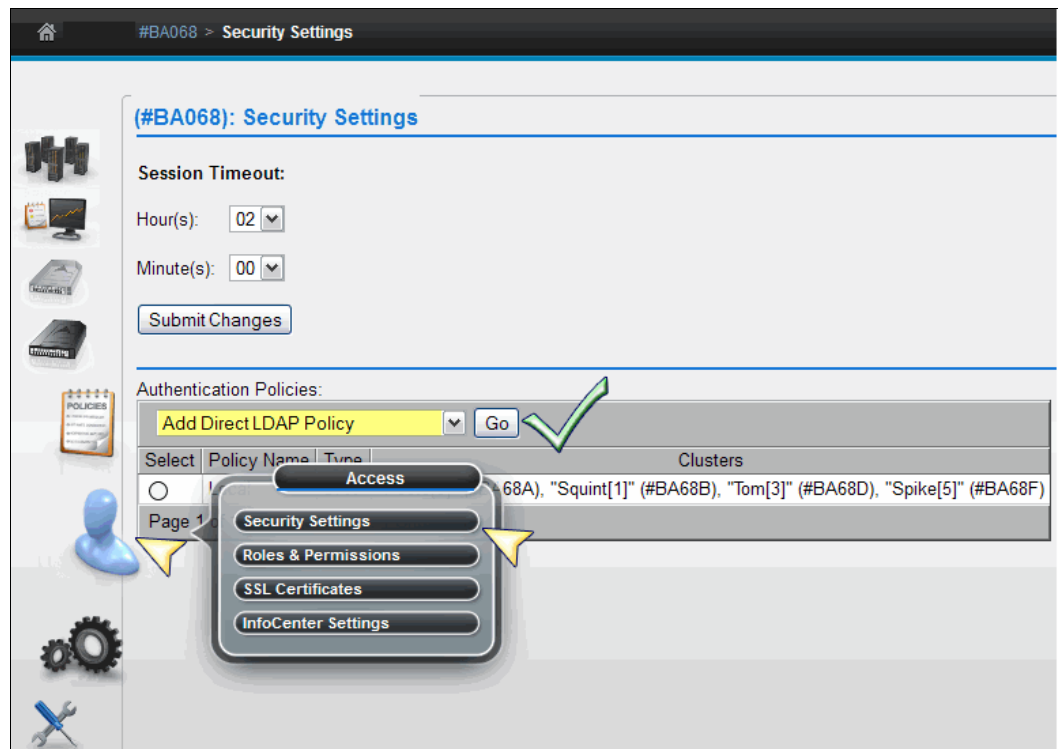

Figure 9-113 LDAP Policy selection
2. From the menu, select **Add Direct LDAP Policy** and click **GO**. Use Figure 9-113 for reference.